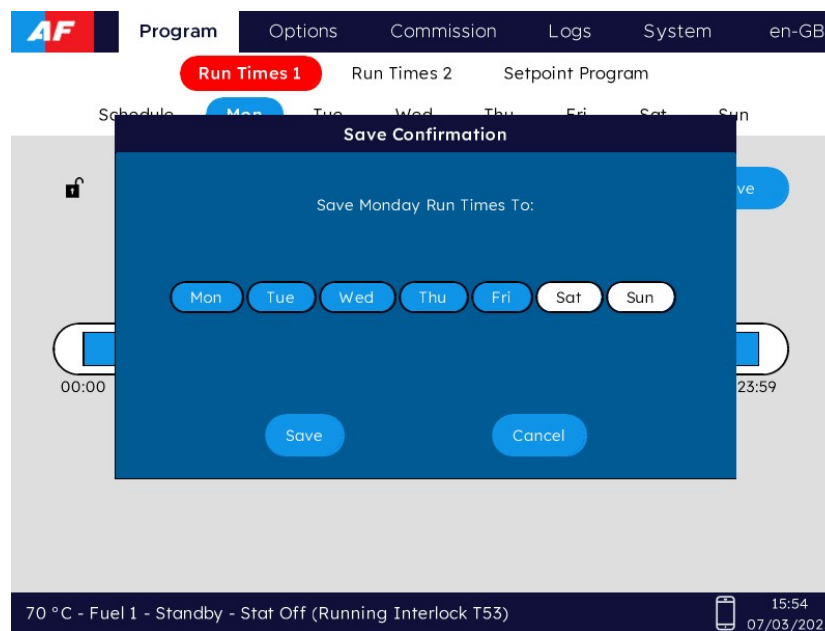

Figure 90 - Run Times Save Confirmation
- The **Save** button allows the edited schedule to be saved. It brings up the **Save Confirmation** pop-up box with the edited day highlighted in blue. Other days may be selected before pressing save to store this schedule in multiple days. In Figure 90, Monday through to Friday have been highlighted to set the schedule for all weekdays. This allows weekday and weekend schedules to be easily set as two separate schedules. Different schedules may be set for each individual day if required.